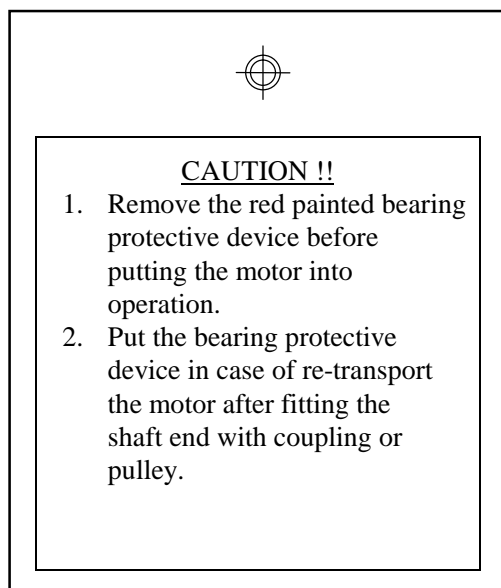

Fig. 1 An example of the caution card
An example of the caution card is shown in Fig. 1.
#### 4.2.1 Grease change or grease-up (see Fig. 1)
When running the motor, remove grease drain cover ⑪ in Fig. 1, clean the area around grease filler ⑫ by wiping, removing dirt, and inject grease into grease filler ⑫ with a grease gun. The old grease is pushed out of the drain port. When the injection volume according to the bearing nameplate has been injected, stop injecting, and let the motor run a while, with the cover of the grease drain port open to allow excess grease to flow out. If the drain cover is closed without discharging the excess grease, the bearing may heat abnormally. When no more grease is discharging, close the drain cover.
For the exact location of the insulation, refer to Fig. 1, the bearing structural drawing. Where a bearing thermometer is installed, the element is also insulated, and due caution is required in handling it.